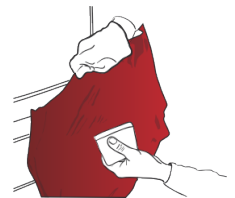

Figure 16
- › If necessary, lift the film, stretch it again, completely wrap the convex surface and apply it. (FIG. 16)